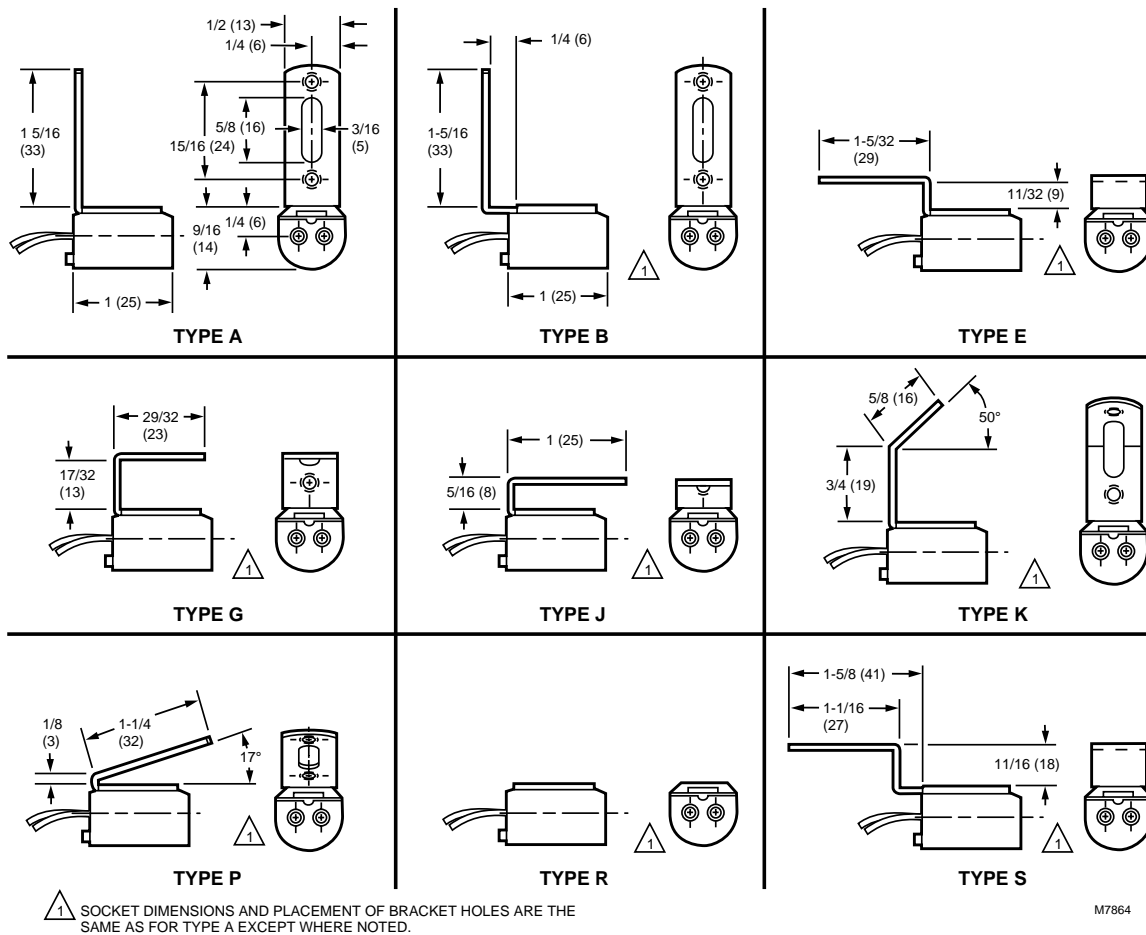

Fig. 1. Mounting bracket dimensions in in. (mm).
See Fig. 1.
Mounting (see Fig. 1):
2. Type of mounting bracket on standard models (Fig. 1).